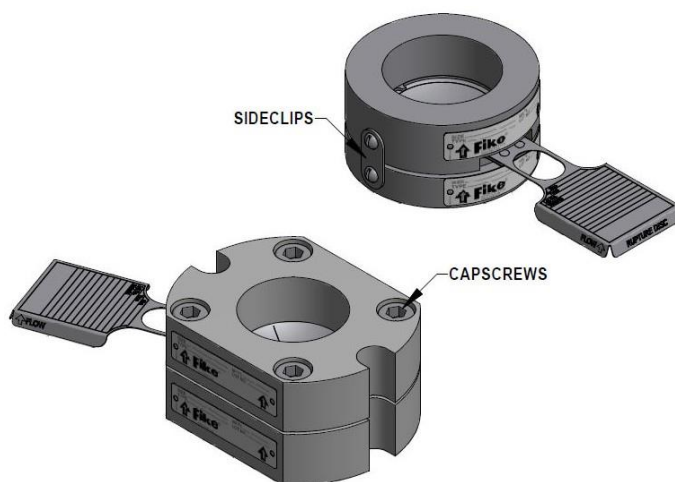

Figure 2 - Insert holder (top) and pre-torqueable holder
1. Carefully take the bursting disc holder apart by removing the side clips or cap screws and discard the white shipping protector (See Figure 2).